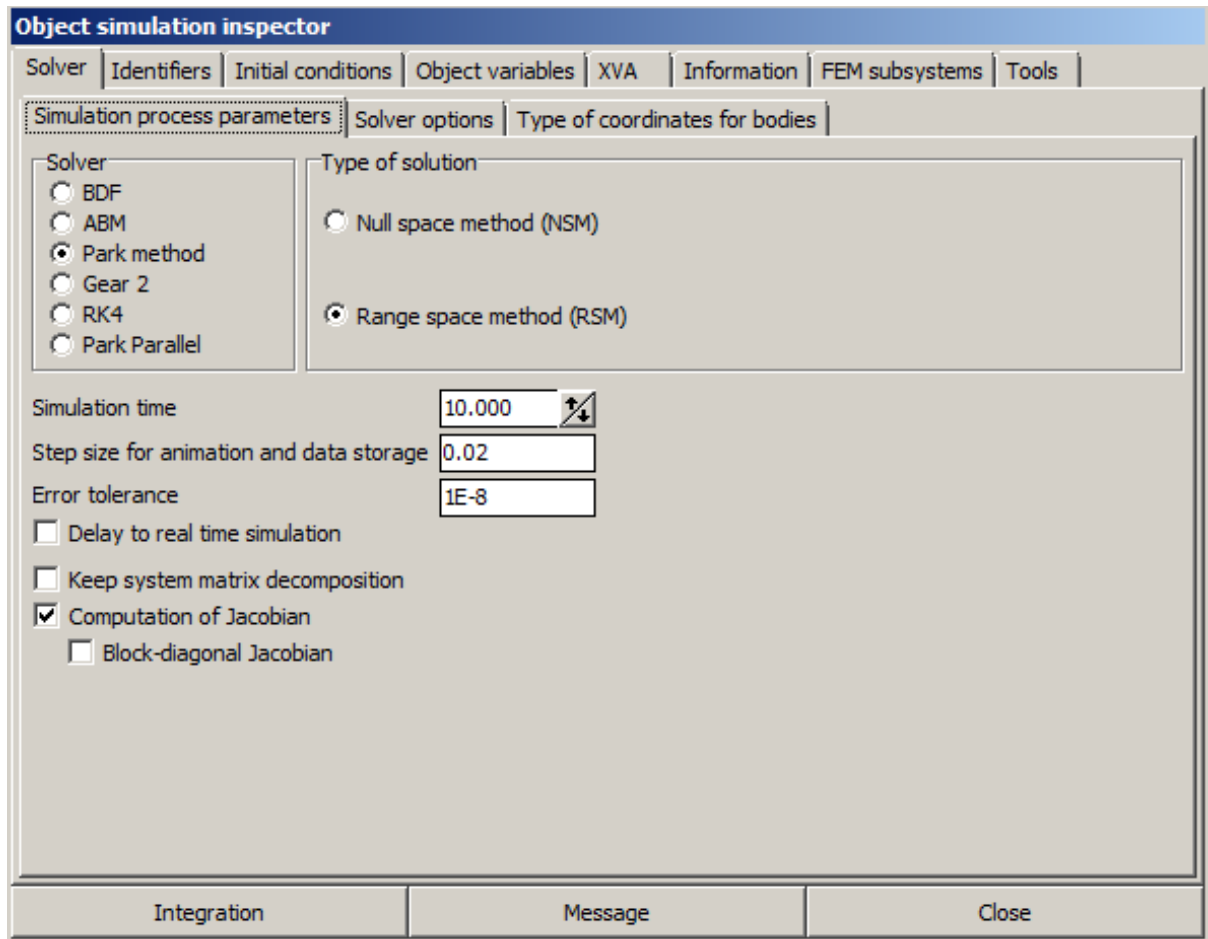

Figure 2.61.
8. Set the solver parameter on the **Solver** tab of the inspector as in Figure 2.61: